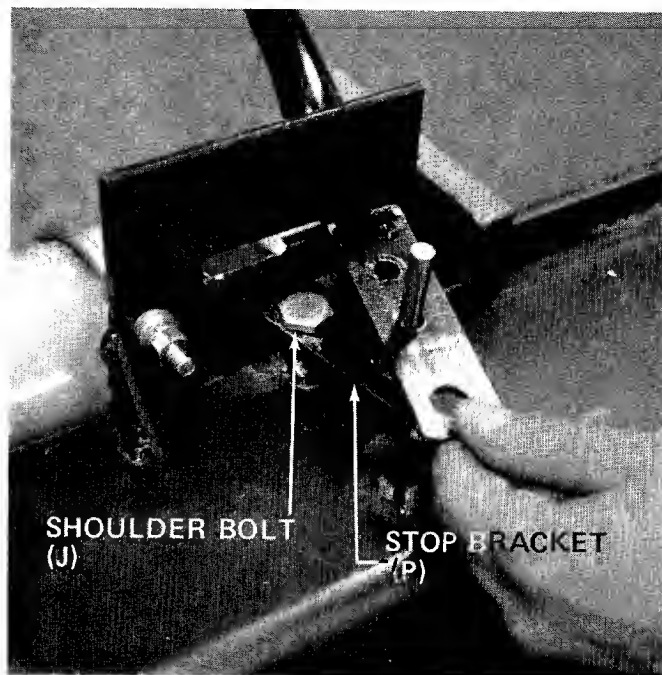

FIGURE 5
6. Secure stop bracket (P) to beam with shoulder bolt (J). See figure 5.